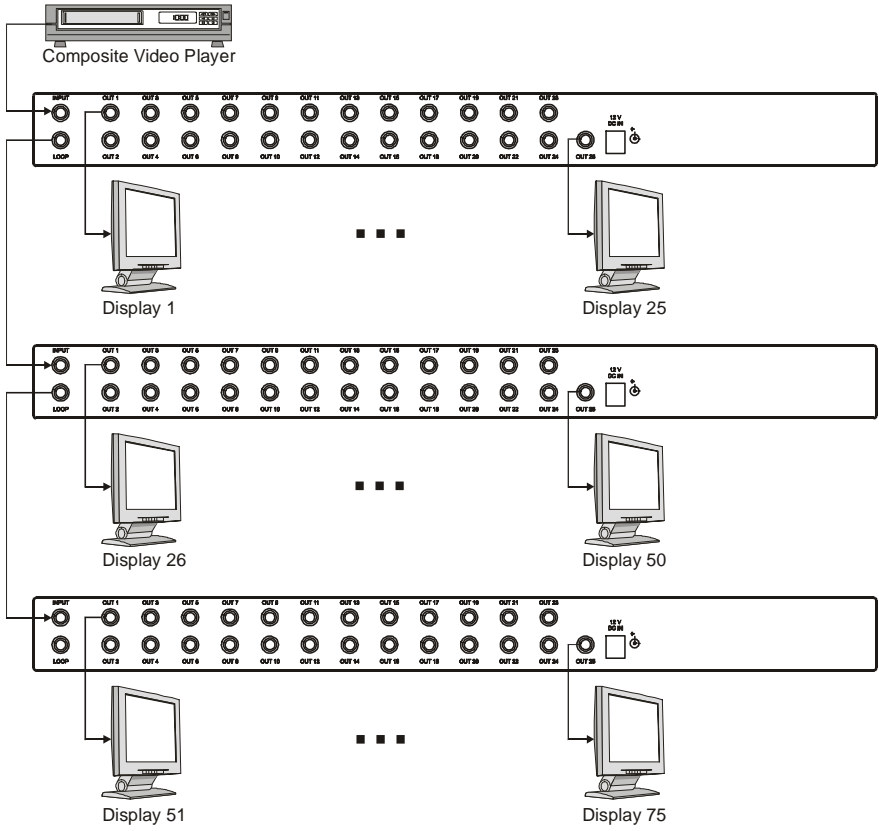

Figure 3: Increasing the Outputs: Arranging a 1:75 Video DA
You can increase the number of outputs by interconnecting **VM-25** units. The example in Figure 3 illustrates how to connect three units to increase the number of outputs from 25 to 75.
- Connect the 12V DC power adapter to the power socket on the **VM-25**, and plug the adapter into the mains electricity socket (not shown in Figure 3)